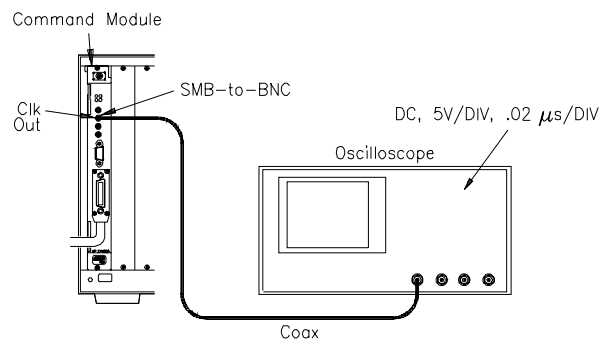

Figure 2-7. Test F-1: Front Panel Outputs Connections
- Connect oscilloscope to command module (see Figure 2-7)
- Set up oscilloscope (see Figure 2-7)